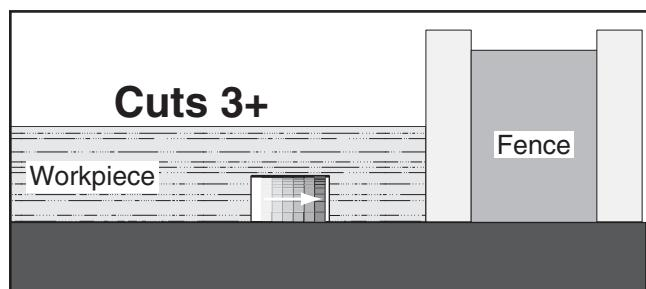

Figure 67. Additional single blade dado cuts.
9. Make additional cuts (see Figure 67) in the center of the dado to clear out the necessary material. The dado is complete when the channel is completely cleared out.